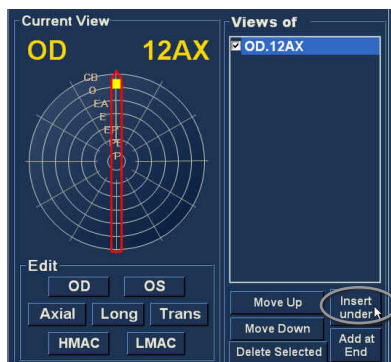

Figure 4.20 - Adding a New Sequence Scan
1. Click "Insert Under" as shown in Figure 4.20.